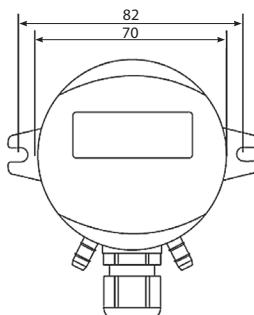

Fig. 1. Pressure sensor dimensions
- sensor is screwed directly to the duct (refer to figure 1).